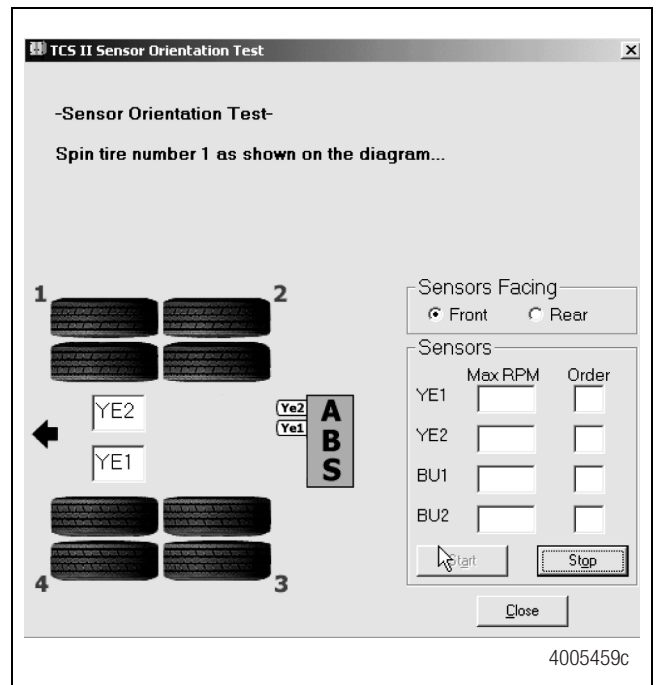

Figure 35
- Click on **Start** to begin the test. Figure 35.